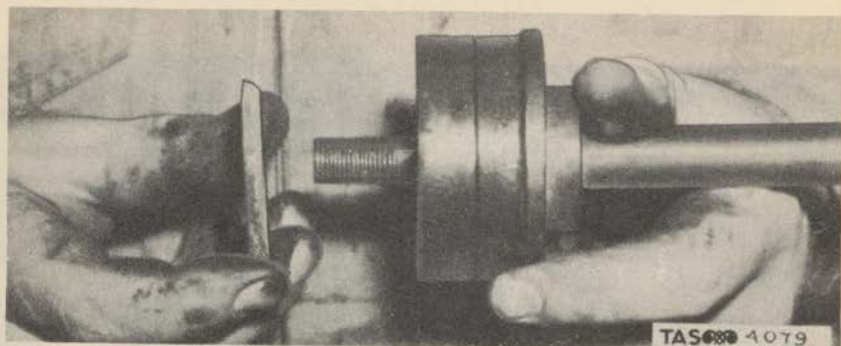

Figure 115. Removing Steel Washer.
(13) Remove the steel washer. (Fig. 115)